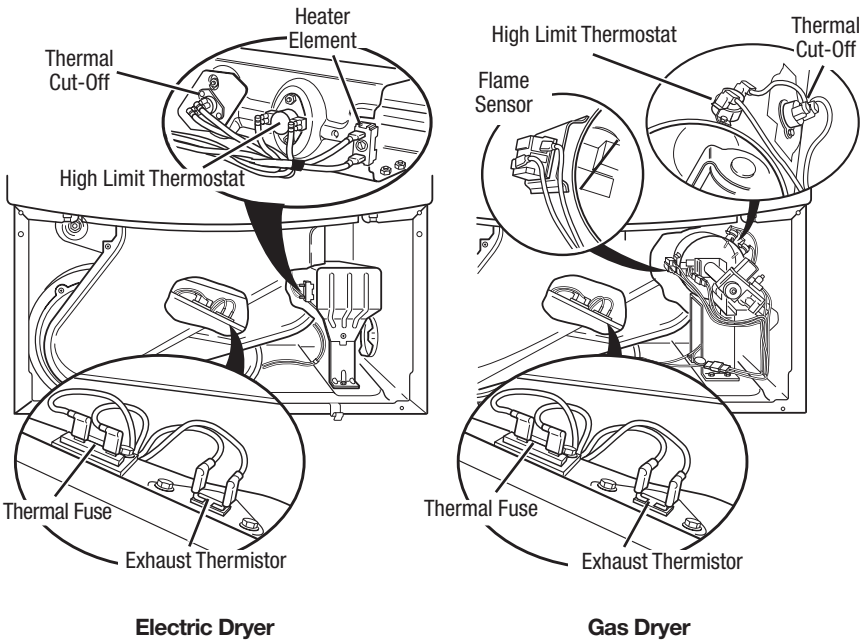

Figure 10. Thermal Components, viewed from front.
Locate the components using figure 10.
5. Locate the high limit thermostat. See figure 10. Measure the continuity through it by connecting the meter probes on the red wire and blue wire terminals.
→ Check wire connections at the machine control electronics and thermistor. See Accessing & Removing the Electronic Assemblies, page 21, and for thermistor location, see figure 10, page 16.
2. Access the thermal fuse by first removing the toe panel. For thermal fuse location, see figure 10, page 16.
3. Using an ohmmeter, check the continuity across the thermal fuse. See figure 10 for location.
3. Using an ohmmeter, check the continuity across the thermal cut-off. See figure 10, page 16, for location.